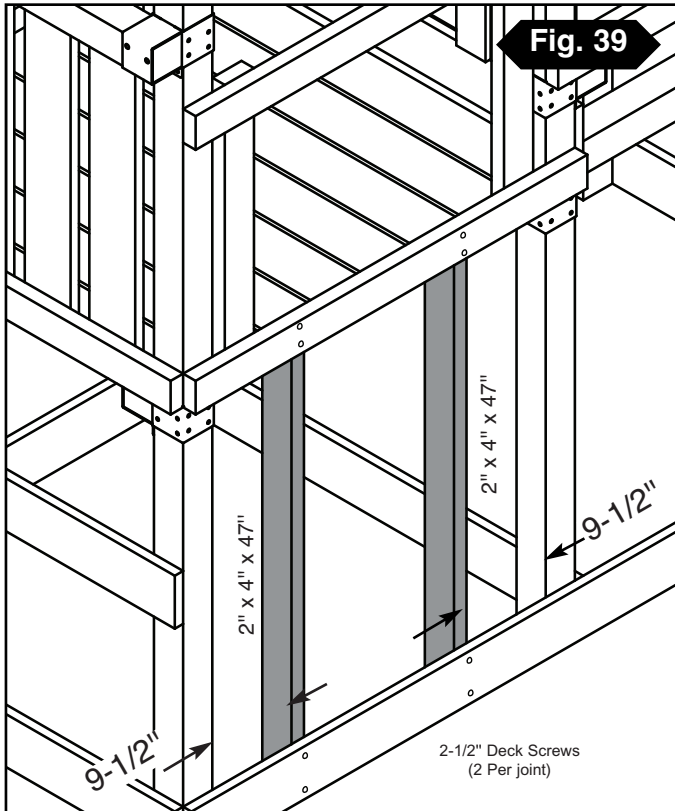
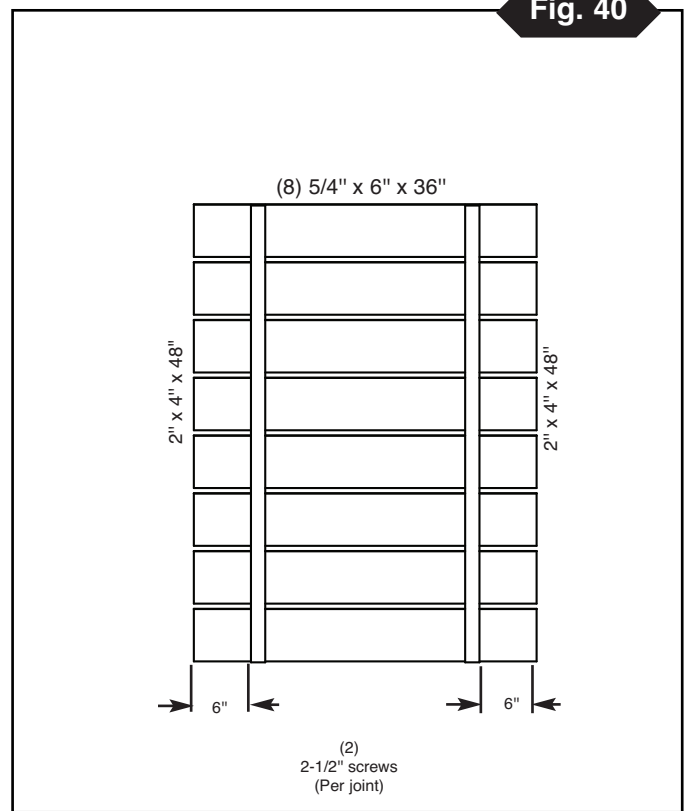

Fig. 39
Fig. 40
1. Assemble and install Climbing Wall Frame as shown in **(Fig. 39), (Fig. 40)**.